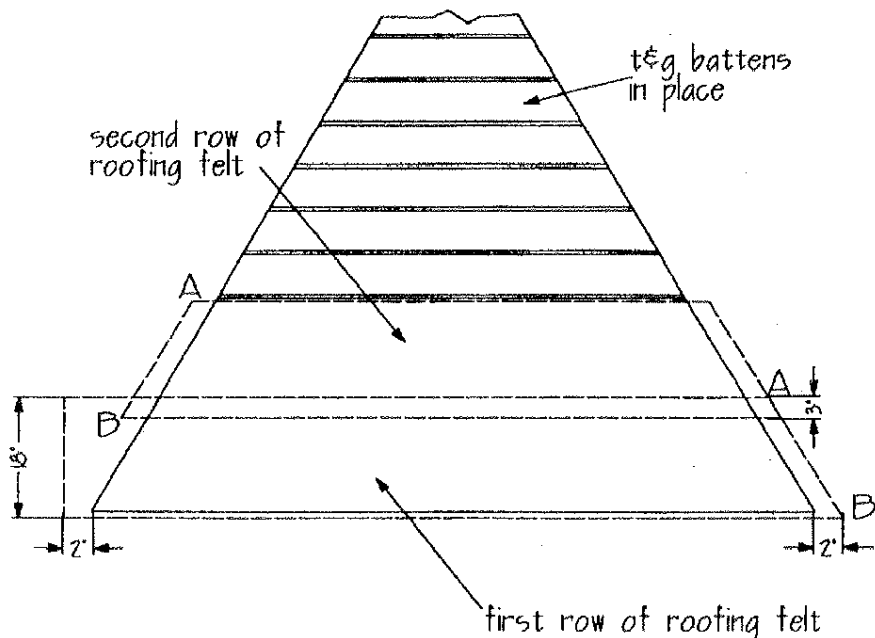

FIGURE D17
2. Roll the felt out so that you have about 2" of overlap on the adjacent roof section on the upper side of the roll. Using a knife, cut a 2" overlap parallel to the roof edge, as shown by line AB in **Figure D17**. Make this cut on both sides of the roof section. Staple the felt down to the battens.